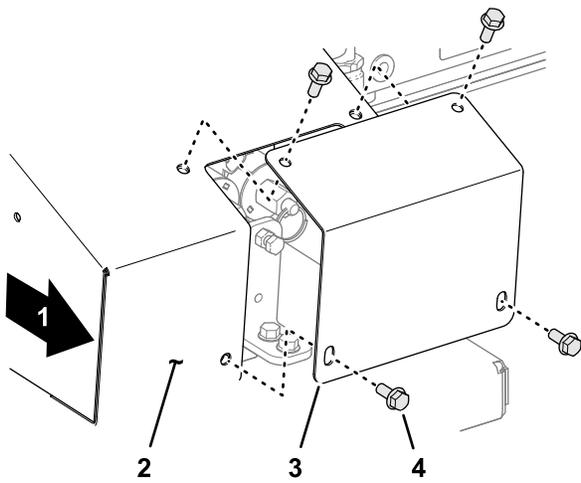

Figure 28
- At the right side of the machine, remove the 4 flange-head capscrews that secure the cover plate to the override cover (Figure 28).